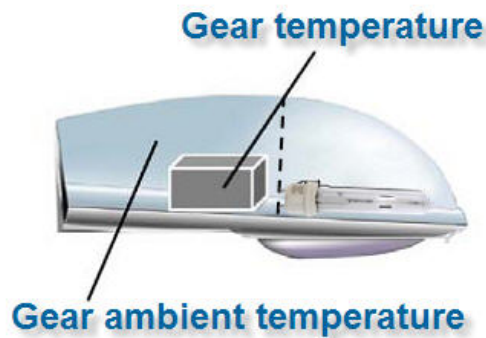

Figure 2.1 Temperature definitions
- Luminaire temperature: temperature outside the luminaire (see figure 2.1).